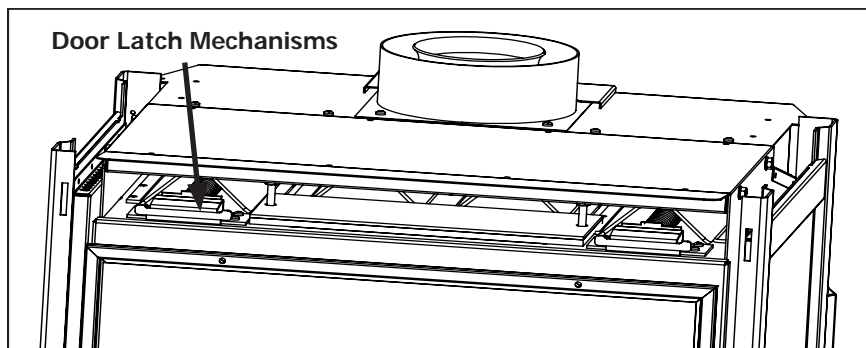
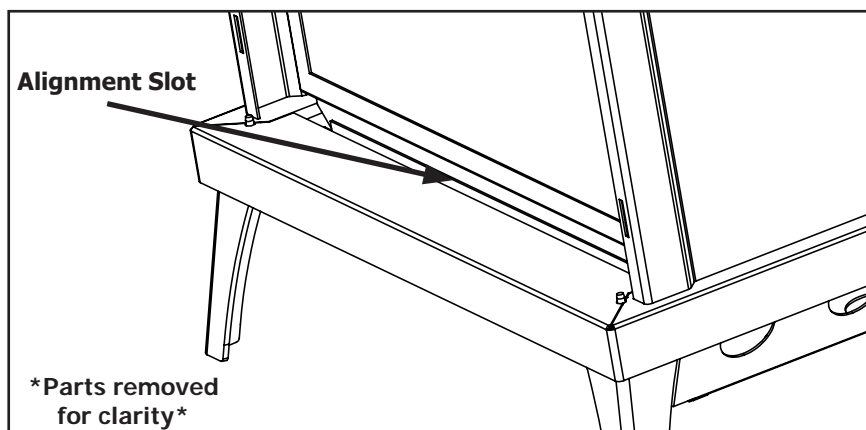

Figure 9. Top latches for glass door (cabinet front and top removed)
Figure 10. Bottom Alignment Slot for glass door.
In order to install the log set, and for regular cleaning, the glass door must be removed. The cabinet front must first be removed, as outlined in the section above, before accessing the door latches. There are two (2) door latch mechanisms on top the glass door as shown in Figure 9. Each latch can be pulled straight out and up by hand. When the top latches are unhooked, the door can be lifted up out of the alignment slot at the bottom of the firebox, shown in Figure 10.